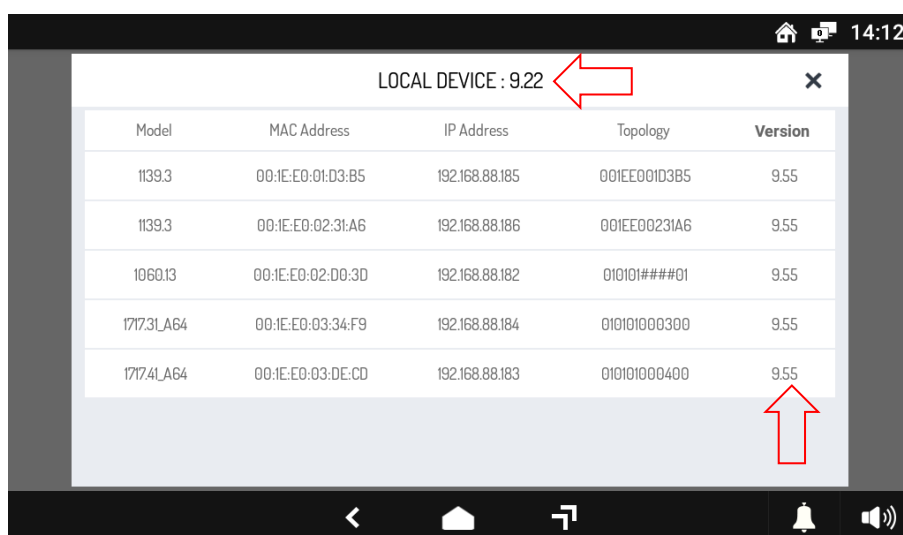

Figure 715: list of devices whose UPTK version is not aligned with the UPTK version of the video door phone
*In server-managed systems only Server 1060/1 is shown in the list in Figure 715.*
The IPerCom version of the newly connected device (9.22) is not aligned with that of the system (9.53). Also in this case, if the connected device not updated to the same IPerCom version as the system is a video door phone, this signals its misalignment with respect to the rest of the system, as shown in Figure 715.